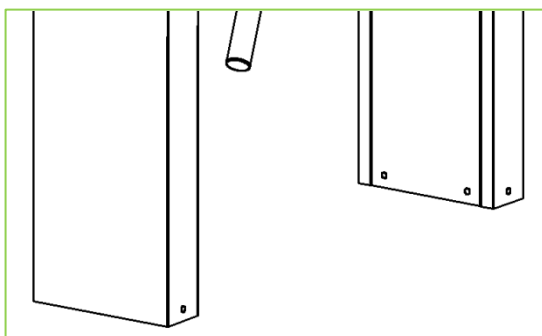

Figure 3-4
3. Put the turnstile on two mounting plates and tighten the screws on the bottom of column, as shown in Figure 3-4.